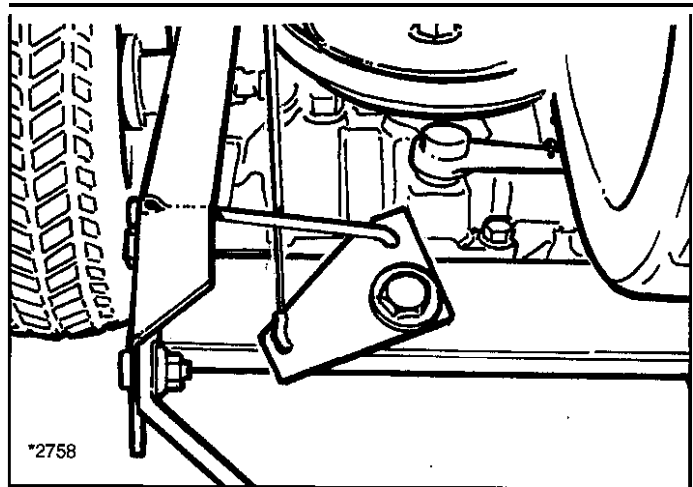

Figure 55. Proper Clutch Cable Position On Clutch Lever
4. When properly inserted, the clutch cable end hook will be seated at the second bend in the hook (Figure 55).